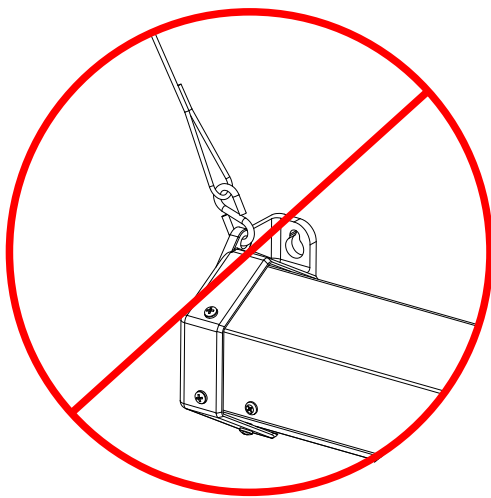
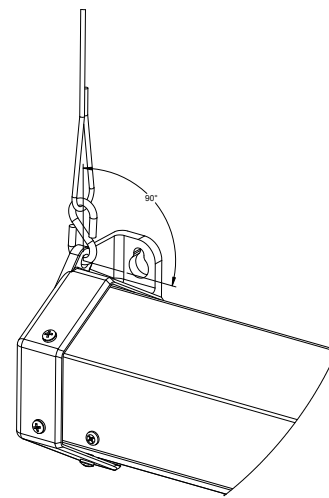

Figure 3
Figure 4
NOTE: DO NOT hang from the end caps at an angle. See Figure 3. Must be perpendicular to the mounting See Figure 4.
To Reduce Screen Drop: Turn the white limit switch screw (Figure 3) clockwise to decrease the amount of screen drop. Run the screen down to test the stop position. If the screen drops too far, raise the screen about one foot and adjust the limit switch again. Repeat until the desired position is set.
2. Locate the two tactile buttons on the back of the switch. They are square silver with black round buttons. See Figure 4 (VPI) or Figure 5 (LVC) for diagram.